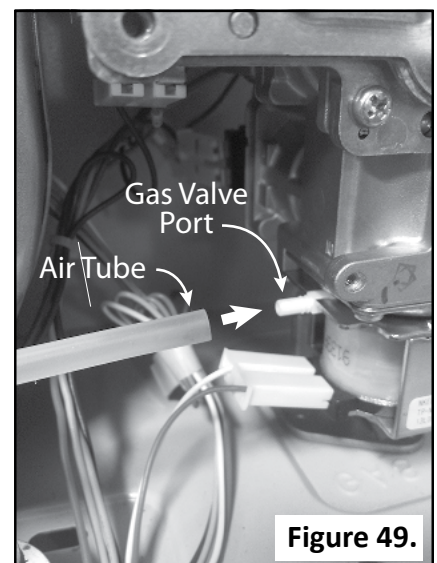

Figure 49.
- 5.4 Disconnect the clear air tube off the left side of the gas valve. (Figure 49.)
6.5 Attach the air tube from the bottom of the combustion chamber to the port on the left side of the gas valve. (See Figure 49, page 57.)